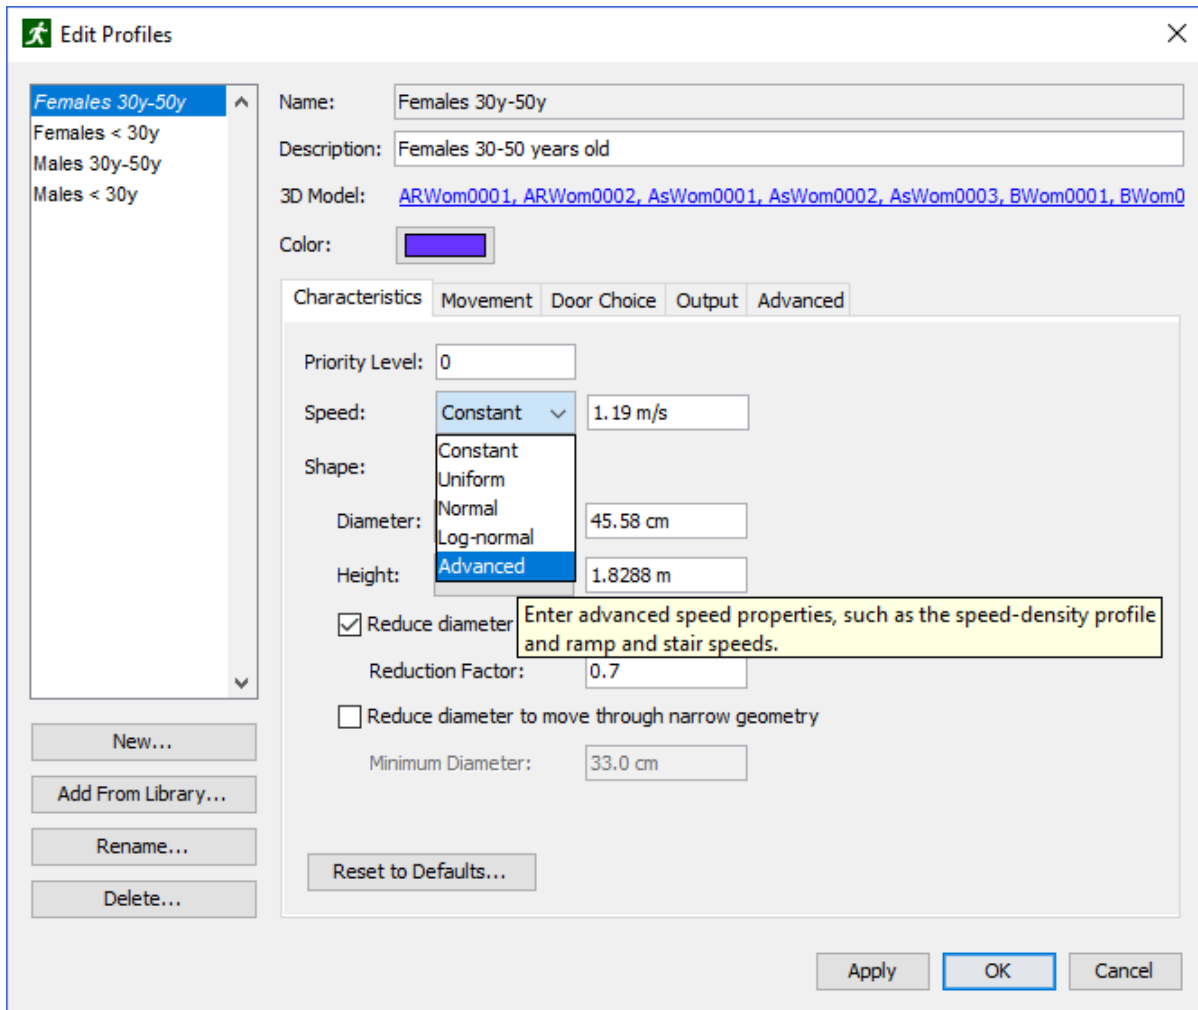

Figure 103. Editing advanced speed properties
3. Next to **Speed**, click the drop-down box and select **Advanced** as shown in Figure 103.